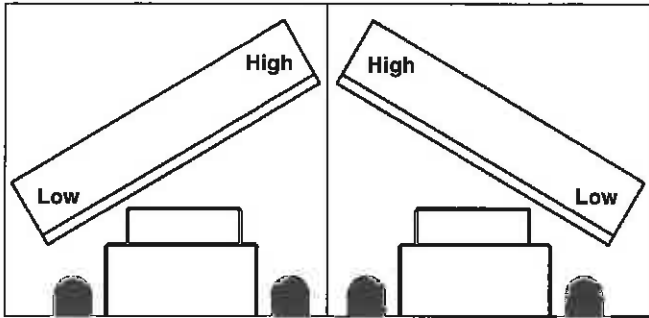

figure 53
- figure 53, extend tilt cylinders.
- figure 53, add links between the upright and loader's cross member.
- figure 53, shorten the hitch toplink.